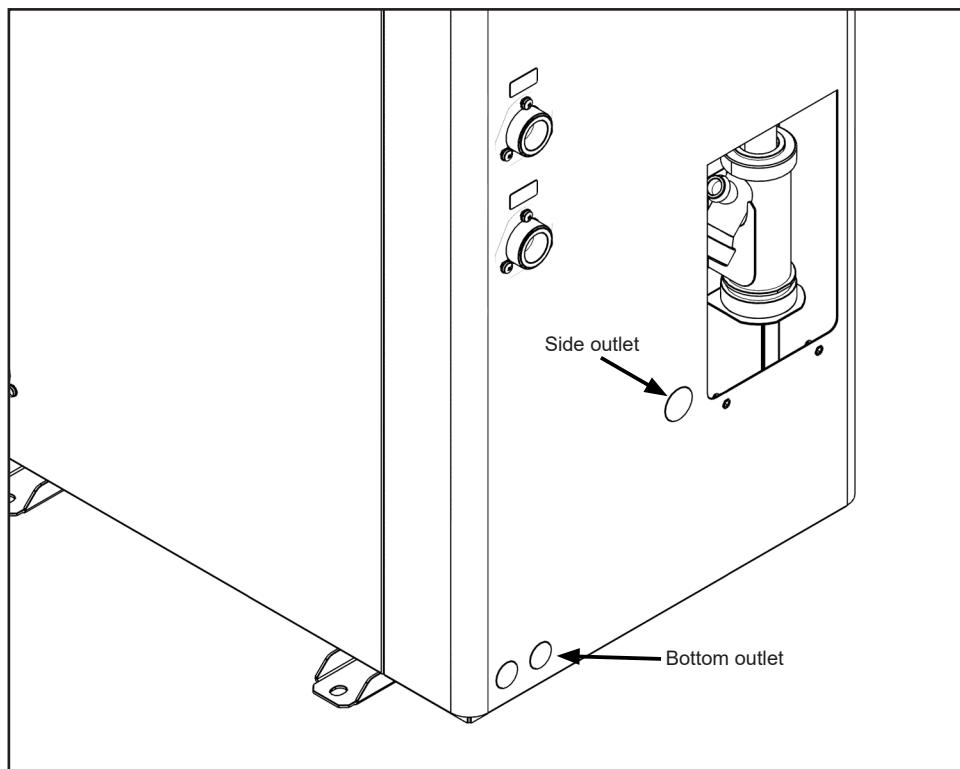

Figure 9-4: Location of openings for condensate disposal pipework
The boiler enclosure has several 30 mm diameter openings in the left side panel (next to the trap access panel). There is also a second opening in the base of the boiler unit. Refer to Figure 9-4. Either of these openings can be used to allow the condensate disposal pipe to exit the enclosure in one of the following ways:
3. Carefully separate the left side and rear panels just enough to gain access to the condensate outlet on the left rear of the condensing heat exchanger (see Figure 9-4).